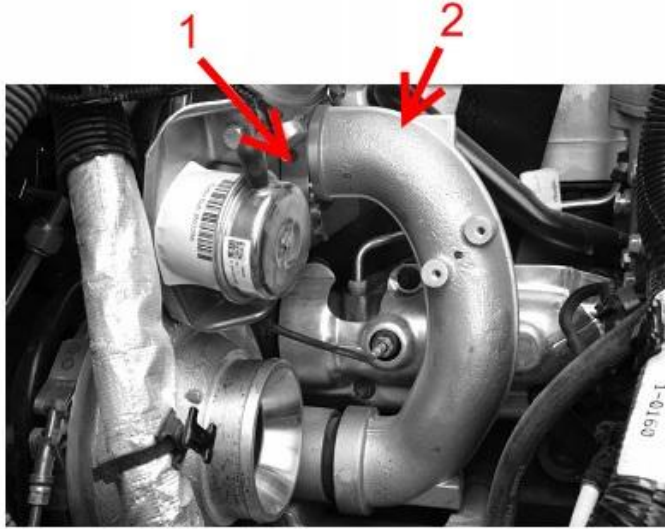

Figure 4: Turbo Crossover Tube
12. Remove V-band clamp (**Figure 4**, Item 1) and crossover tube (**Figure 4**, Item 2).